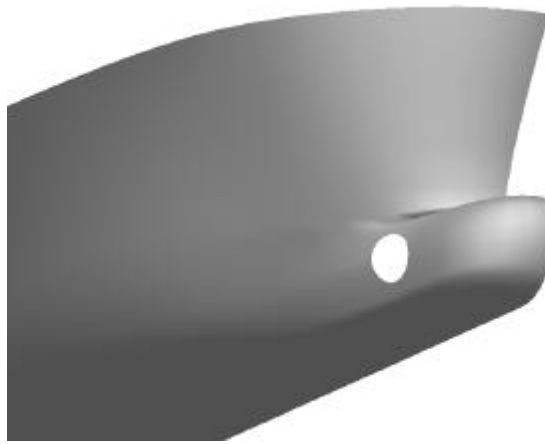

Figure 2-22: Rendered trimmed Foreship surface
4. Select **View - Render** to see the trim. (See Figure 2-22.)